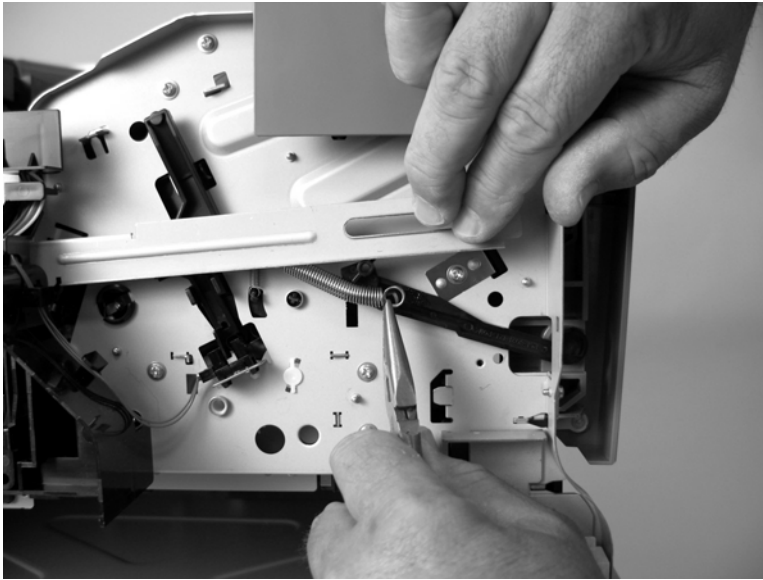

Figure 5-218 Remove the print cartridge door (4 of 12)
14. When you reinstall the door, make sure that the wire harness passes through the hole in the chassis with the plastic grommet and that the door linkage passes through the hole in the front of the chassis *before* installing the mounting screws. Figure 5-218 Remove the print cartridge door \(4 of 12\) on page 320 shows the door linkage installed correctly.